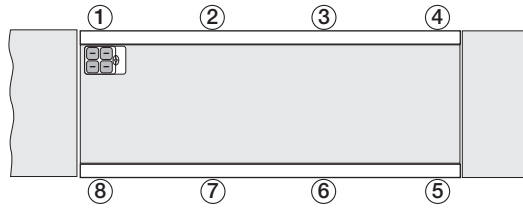

Figure 5-2. Trimming Load Cell Number One
1. Park the cart as close as possible to Side 1 being trimmed with the wheels centered over the end load cell mount (No. 1 in Figure 5-2 on page 19). Record the indicator reading. Remember that the scale is still uncalibrated, so the indicator readings are simply arbitrary engineering units rather than weight units.